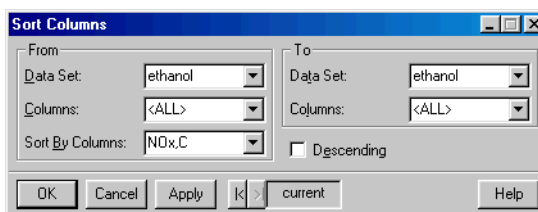

Figure 2.31: The *Sort Columns* dialog.
1. From the main menu, choose **Data ► Restructure ► Sort**. The **Sort Columns** dialog opens, as shown in Figure 2.31.